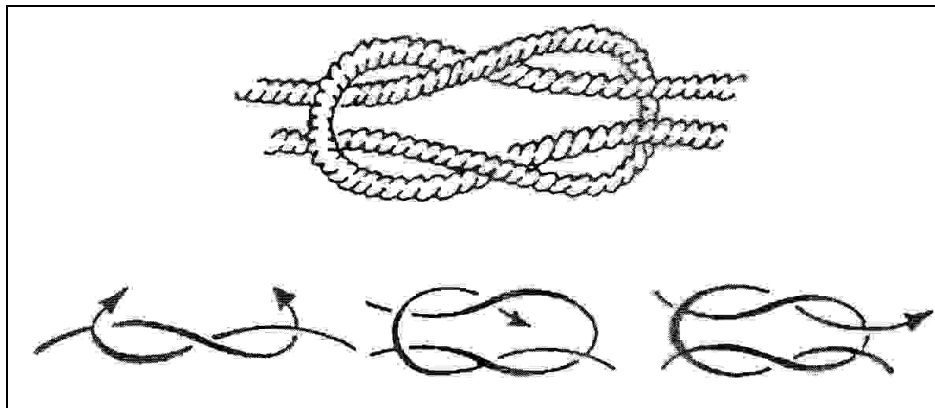

Figure 3-75. Square Knot
3. Tie a square knot (see Figure 3-75).